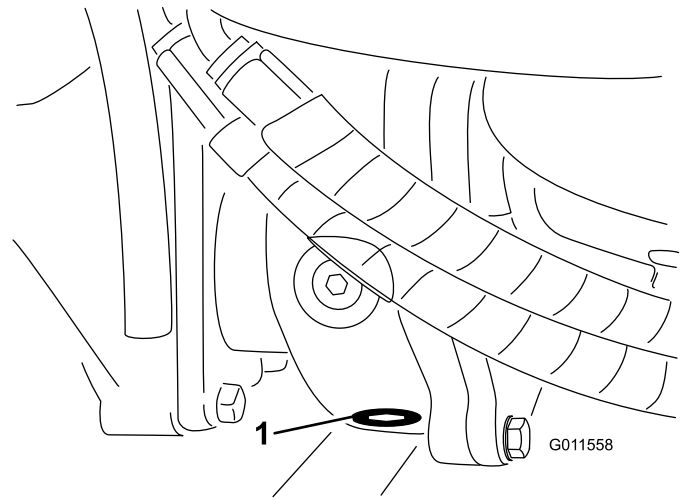

Figure 65
5. Clean the area around the drain plug on the bottom of the gear box (Figure 65).